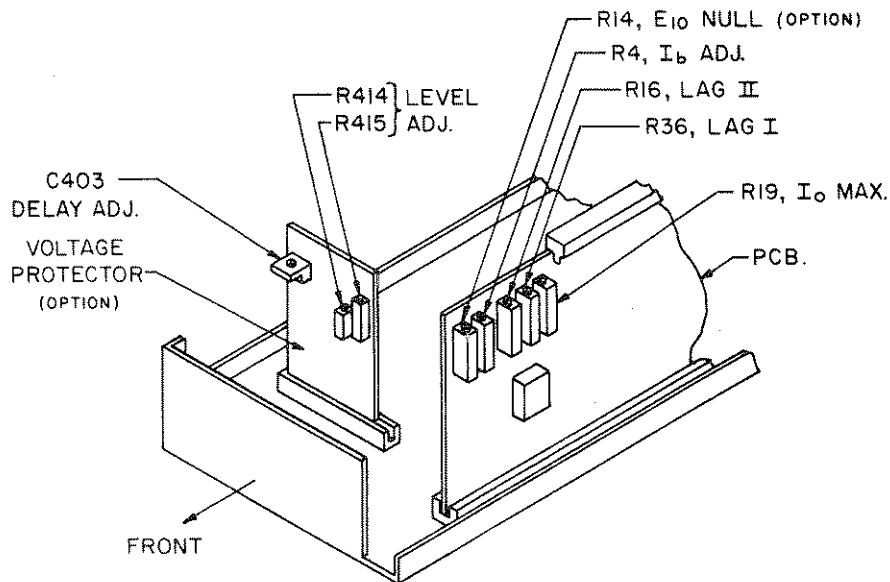

FIG. 2-1 LOCATION OF INTERNAL ADJUSTMENTS (NOT APPLICABLE TO “-HS” MODELS)
- c) INTERNAL ADJUSTMENTS AND CALIBRATIONS: Refer to FIG. 2-1 and TABLE 2-1.
- d) (Models suffixed "-VP" only) Check the "crowbar" action of the overvoltage protector by first adjusting the VOLTAGE CONTROL to about one quarter of the rated output voltage. Locate the "Vlimit" adjustments (R414,415, refer to FIG. 2-1) and turn the "Coarse" adjustment (R415) slowly counter clockwise until the output voltage goes suddenly to zero as observed on the panel meter. Turn AC POWER SWITCH "off". Turn the coarse "Vlimit" control (R415) fully clockwise again.
3-15 Both inaccuracies, the slightly larger bridge current ( $I_b$ ) and the small negative offset voltage ( $E_{io}$ ) may be adjusted to provide a linear and precise programming ratio. Refer to FIG. 2-1 for the location of the calibration controls.